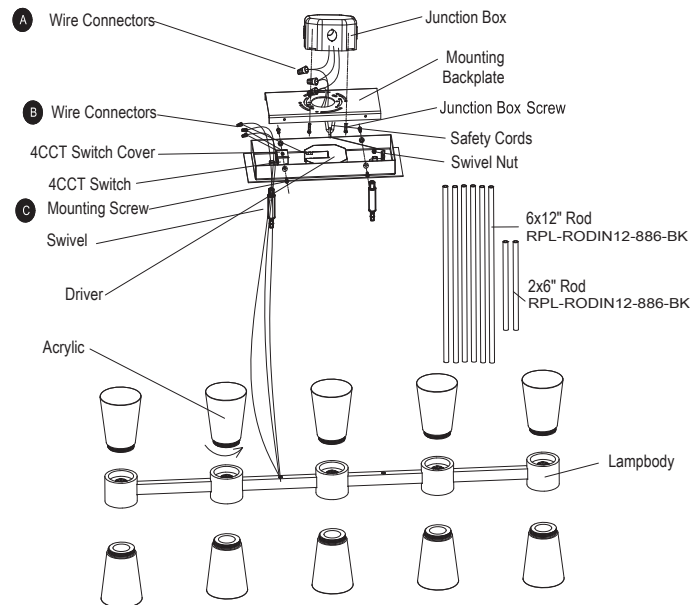

Fig. 3
ASSEMBLING AND WIRING FIXTURE (Fig. 1, Fig. 2, Fig. 3)
4. Loosen the mounting screw (C) from the fixture, and loosen the swivel nut from the swivel.
- b. Due to limited room within the canopy, shorten the cable as necessary to make the installation easier. Make sure to identify and label all the wiring properly before any trimming/shortening. (Fig. 3)
6. Connect the fixture's wires to junction box wires as shown (Fig. 1 & Fig. 3). Make sure that all wire connectors (A) and wire connectors (B) are secure. If your outlet box has a green or bare copper ground wire, connect the fixture's ground wire to it. Otherwise, connect the fixture's ground wire directly to the back plate using the screw provided. After wires are connected, tuck them carefully inside the junction box.